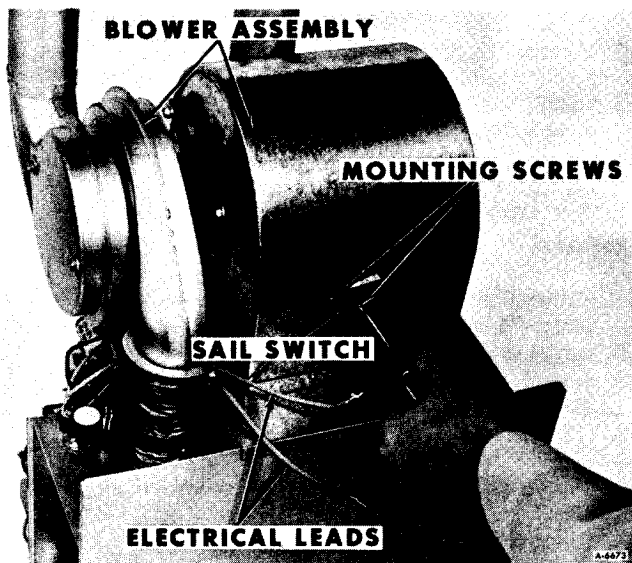

Figure 14 — Removing Sail Switch
NOTE: The sail switch (also sometimes called combustion air switch) is located on the bottom of the blower assembly (Figure 14).
2. Disconnect electrical leads from sail switch (Figure 14).